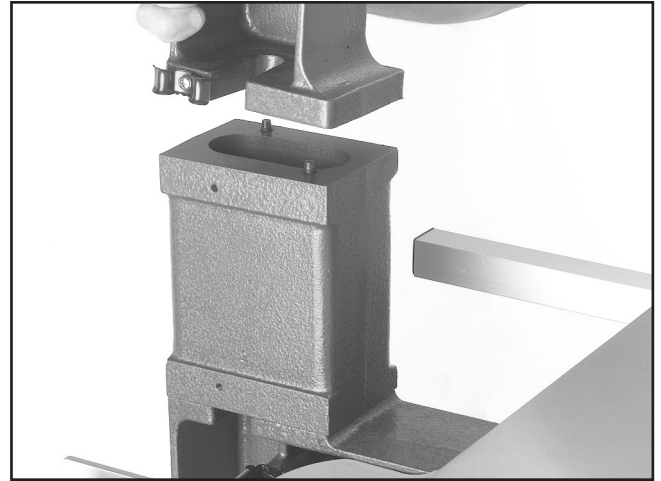

Figure 4. Placing upper arm on extension block.
7. Have an assistant place the upper arm onto the extension block pins and hold it in place (**Figure 4**).